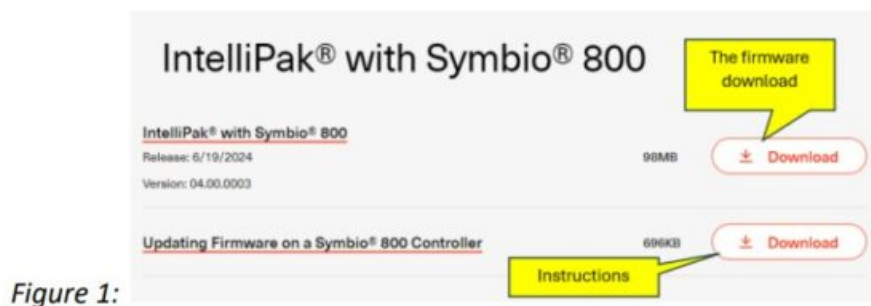

Figure 1:
- Download latest Firmware version to your laptop and instructions: IntelliPak® with Symbio® 800 , Release: 6/19/2024 Version: 04.00.0003 (Figure 1). Link: Trane Controls Software & Firmware Downloads